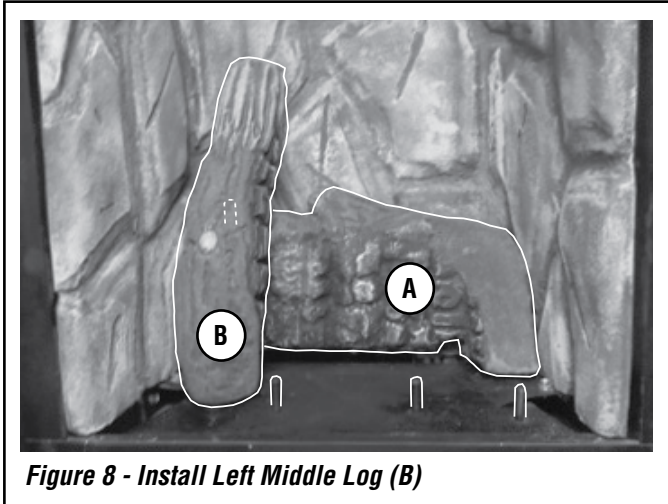

Figure 8 - Install Left Middle Log (B)
2. **Place the left middle log (B) as shown in Figure 8.** Position the hole on the bottom of log B over the corresponding locating pin on Log A.